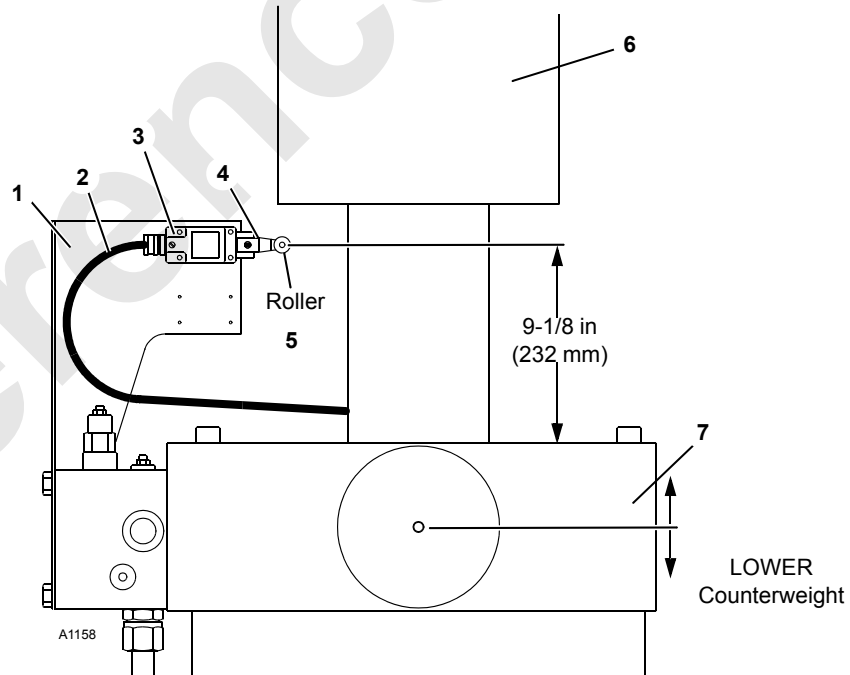

FIGURE 6-4
- Counterweight assembly is resting on foundation (cylinders are extended clear of limit switches as shown in Figure 6-4).